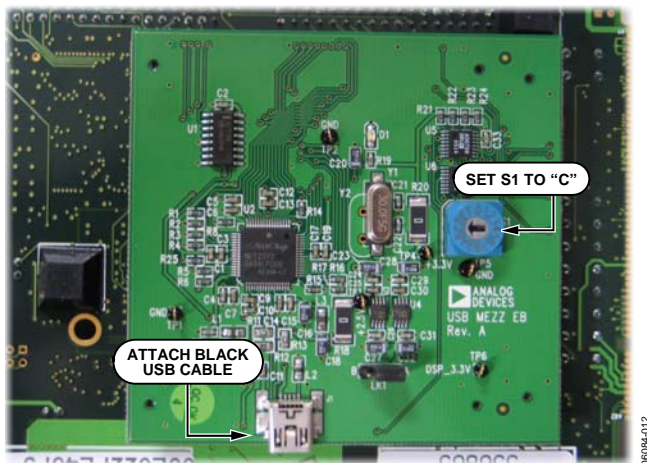

Figure 12. USB Mezzanine Board (Attached Underneath Blackfin EZ-KIT Lit)
3. Using the black mini USB cable included in the AD7764/AD7765 evaluation kit, connect the *Blackfin* board (via the USB mezzanine board underneath the *Blackfin* board shown in Figure 12) to one of the PC's USB sockets.
4. Also ensure that the hexadecimal switch (S1) is set to C and that Link L1 is set to A on the USB mezzanine board (see Figure 12).